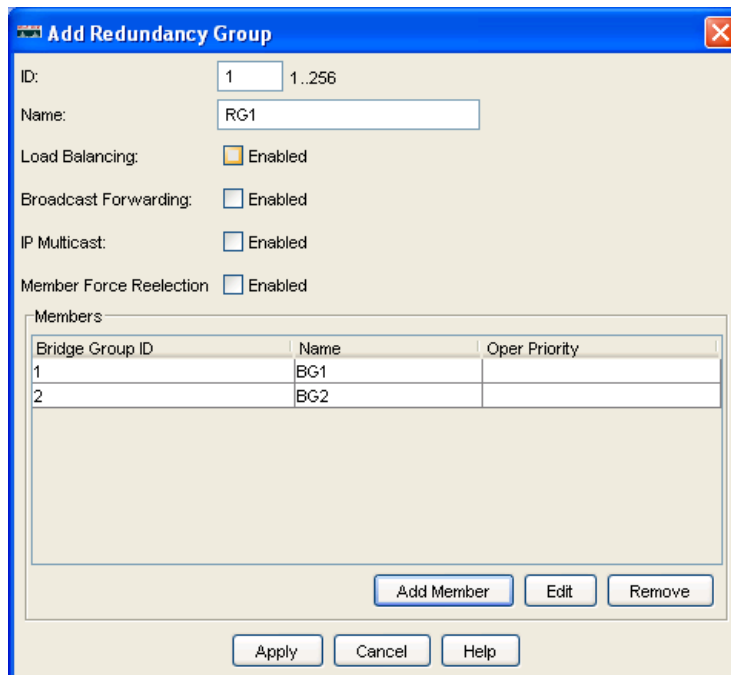

Figure 7-27 Redundancy Group filled out, ready to be created
- Click **Add** in the Redundancy Groups window to begin creating the Redundancy Group. This will open the Add Redundancy Group window, Figure 7-27. Select the ID (default is 1). Give the group a name (RG1 in this example). Click **Add Members**, and select the two bridge groups that had previously been created for this example. The end result should like Figure 7-27.